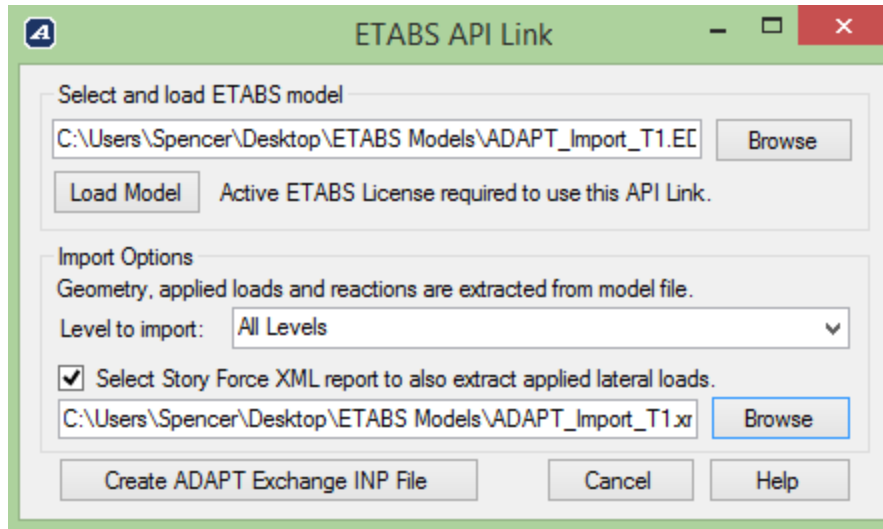

Figure 7 ETABS Link Export Options Dialogue
- In the *ETABS API Link* dialogue window, browse and select the *ETABS *.EDB* file and select *Load Model*. See **FIGURE 7**. Select *Create ADAPT Exchange INP File*.
- After the model has loaded, in the same interface, select *All Levels* for the *Level to Import* and then select the option for selection of the *.XML* file. Browse and select the *ETABS *.XML* file and select *Create ADAPT Exchange INP File*. See **FIGURE 7**.